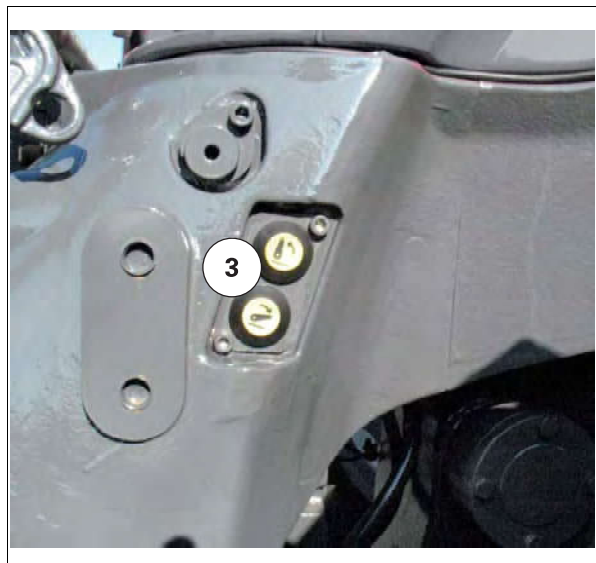

Fig. 14.
The external lifting/lowering controls (3) fig. 14 can only operate with the engine running.